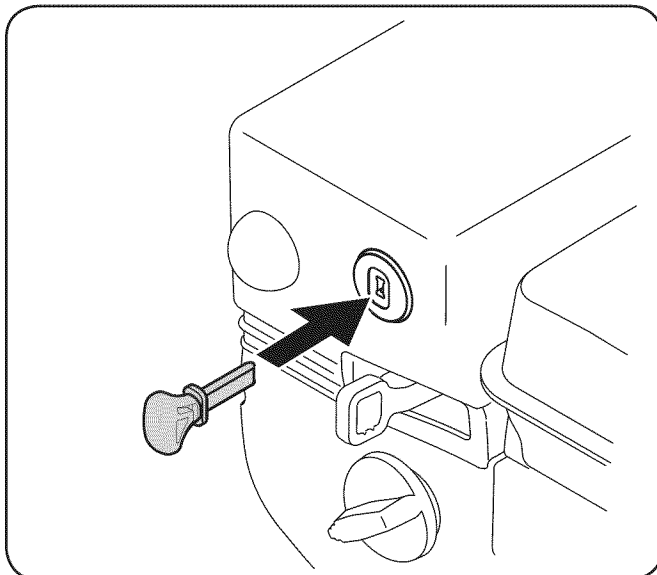

Figure 5-1
2. Insert ignition key fully into slot, Fig. 5-1. Make sure it snaps into place. **DO NOT** turn ignition key. The engine cannot start unless the key is inserted into ignition switch.
1. Insert ignition key fully into slot, Figure 5-1. Make sure it snaps into place. DO NOT turn ignition key. The engine cannot start unless the key is inserted into ignition switch.
4. Push primer three (3) times, making sure to cover vent hole when pushing. If engine is warm, push primer only once. Always cover vent hole when pushing. Cool weather may require priming to be repeated.